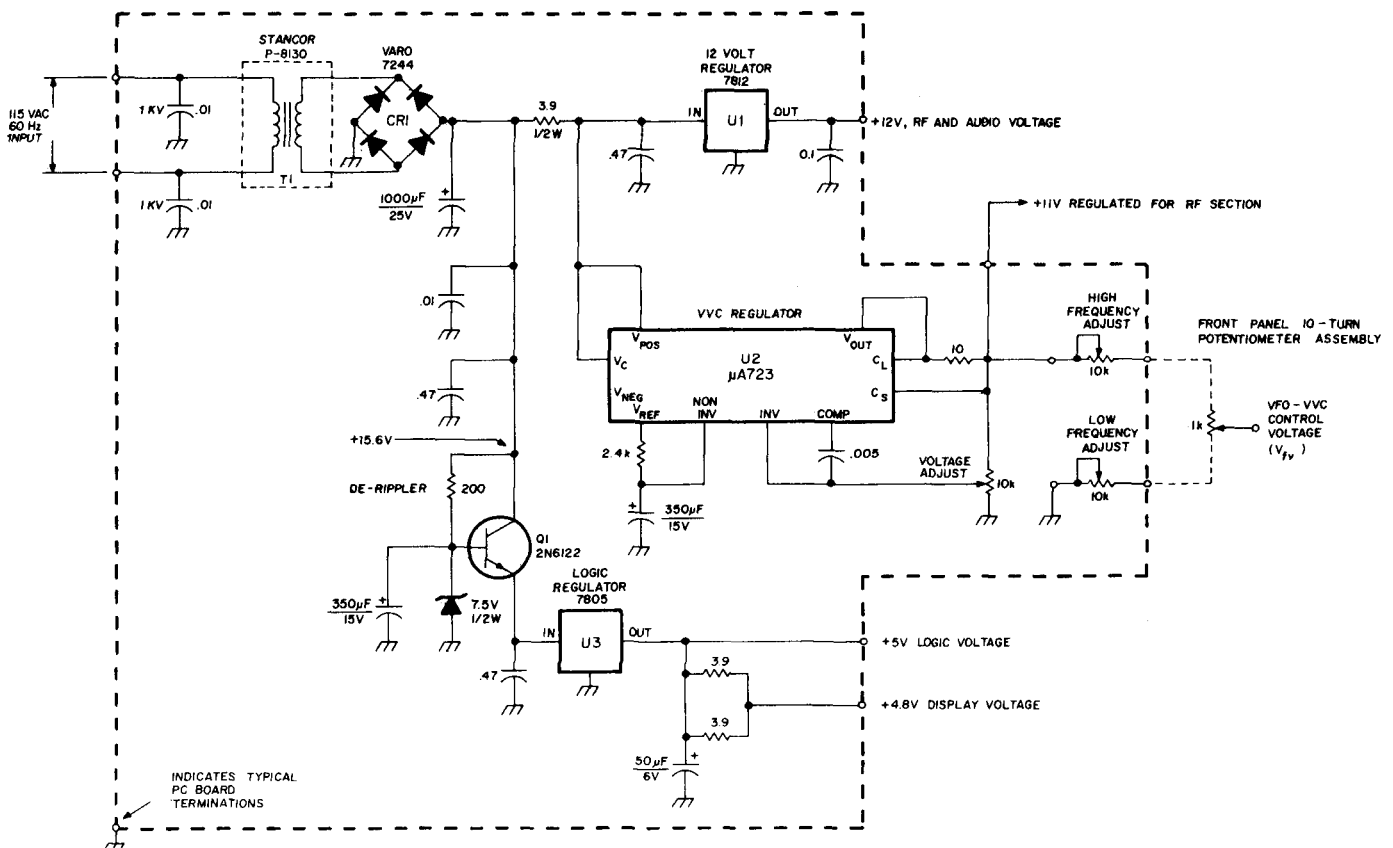
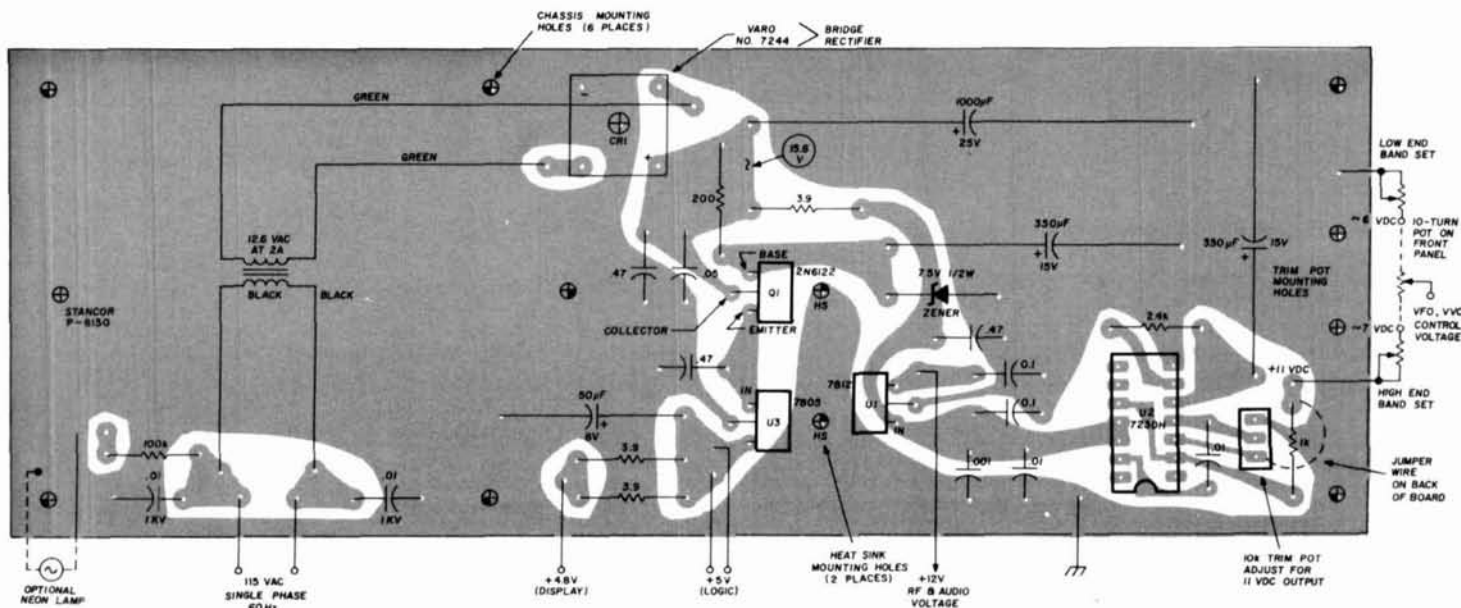

fig. 9. Power-supply schematic.
fig. 16. Power supply PC-board layout.
**Power supply.** The power supply and high-frequency oscillator varactor control system are illustrated in fig. 9. Three-terminal 7800-series voltage regulators are used for the +12 and +5 Vdc requirements. To minimize power dissipation and provide for a constantly changing current demand from the LED displays, a preregulator/derippler circuit is used ahead of the +5 Vdc regulator. A small amount
**Power supply.** The power supply component layout is shown in fig. 16. Heatsinking of Q1, U1 and U3 is mandatory because of the power dissipation of the regulator devices. The power supply photograph illustrates the technique I used, wherein a small piece of aluminum sheet was bent up, with holes drilled in the side and bottom. Since Q1 collector is not operating at ground potential, its case must be insulated from the heatsink. However, the common terminals of U1 and U3 are at ground potential, and their cases may be tied directly to the heatsink. A small amount of silicone grease under the mounting surfaces of these components will aid in thermal conduction. The peak power dissipation values are indicated on the schematic (fig. 9), as a reference for the builder to size the heatsink.
A small aluminum angle bracket is mounted on the end of the PC board assembly to support the HFO trimming resistors; however, these parts can be located at any convenient point on the chassis or next to the 10-turn HFO control on the front panel. The precision voltage regulator, U2, may be mounted to a standard 14-pin DIP socket or soldered directly to the board. Do not forget to add the short jumper wire shown on the back side of the PC board layout of fig. 16.